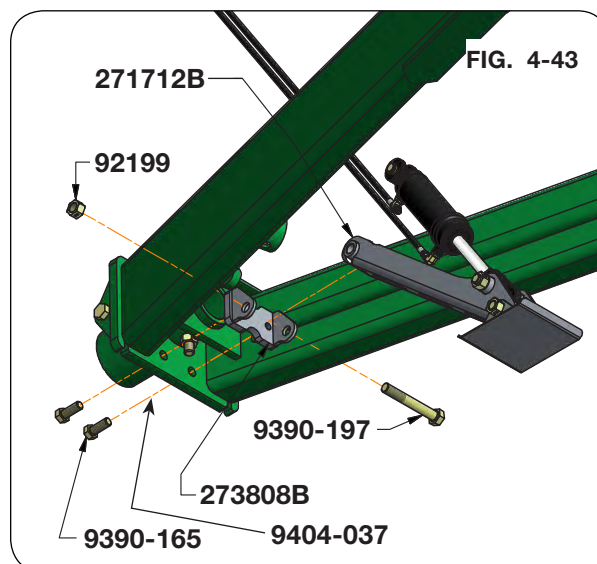

FIG. 4-42
8. Remove cylinder pin (272587) and snap rings (91192) from the base end of the cylinder at the lug on top of the tongue. (Fig. 4-42)